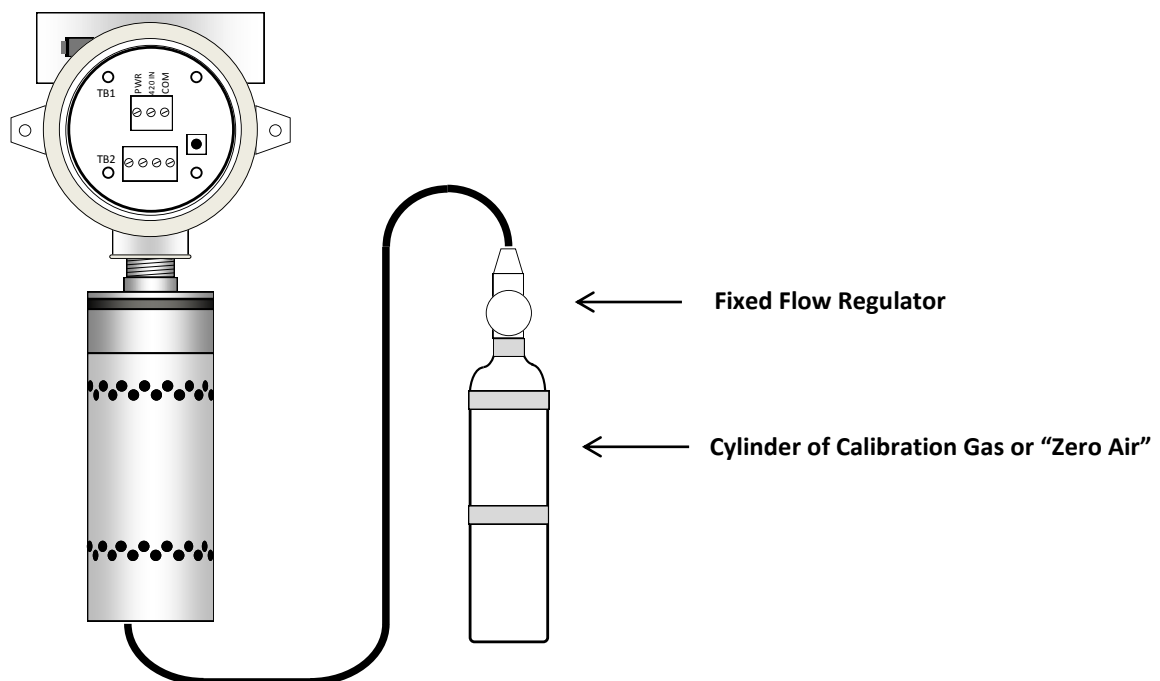

Figure 6-1: Applying Calibration Gas to GDS-IR
2. Apply zero air to the sensor as shown in Fig. 6-1 or confirm the absence of any target gas.
4. Apply span gas to the sensor as shown in Fig 6-1.